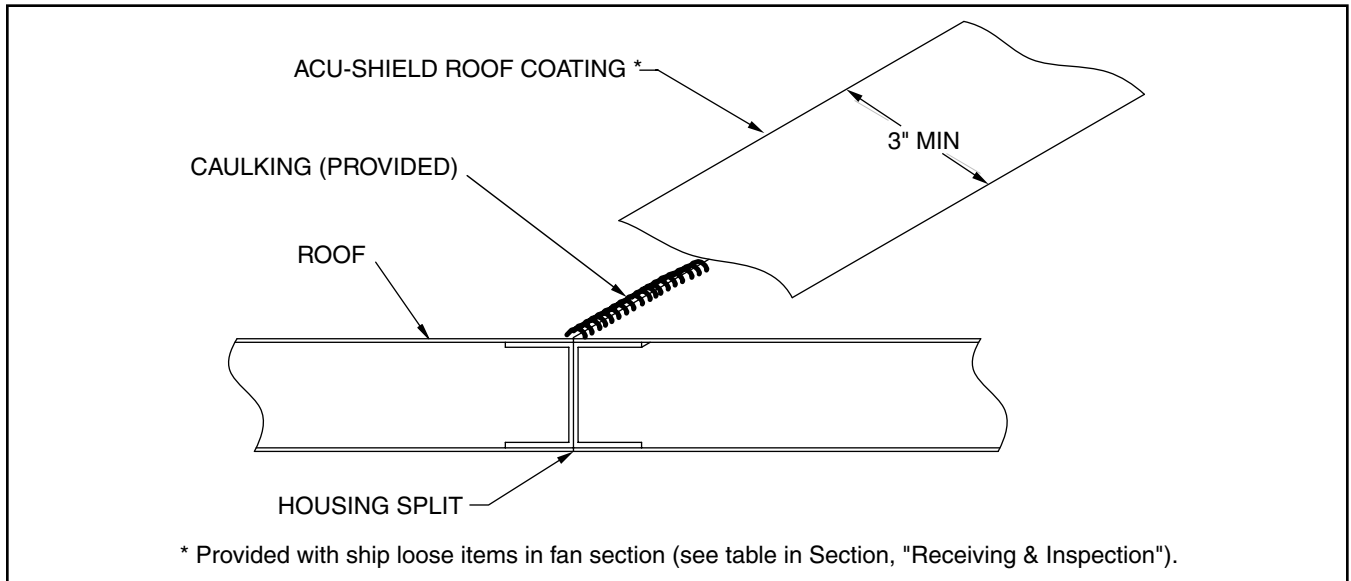

Figure 14 – Outdoor Split Roof Sealant Procedure - AcuAir Performance Series Only
10. Once the shipping cover is in place and the caulk has had time to set, apply the roof coating as shown in Figure 14.
(See Figure 14)